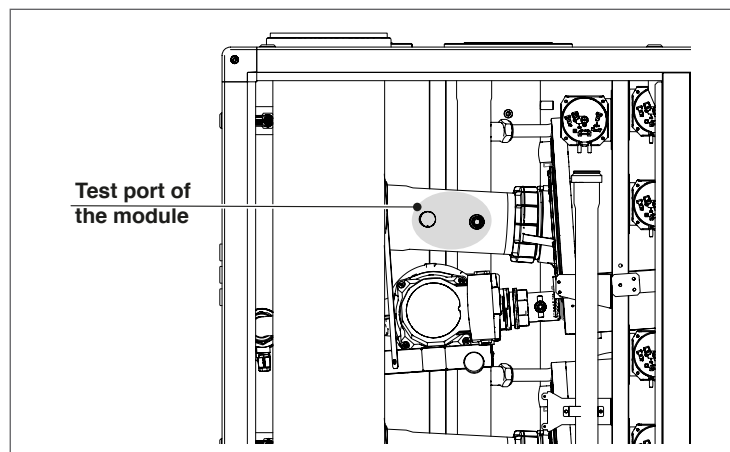

Fig. 21 Test Port for Combustion Analysis (available on each individual heat exchanger)
- Insert a combustion analyzer probe into the test port shown in Fig. 21